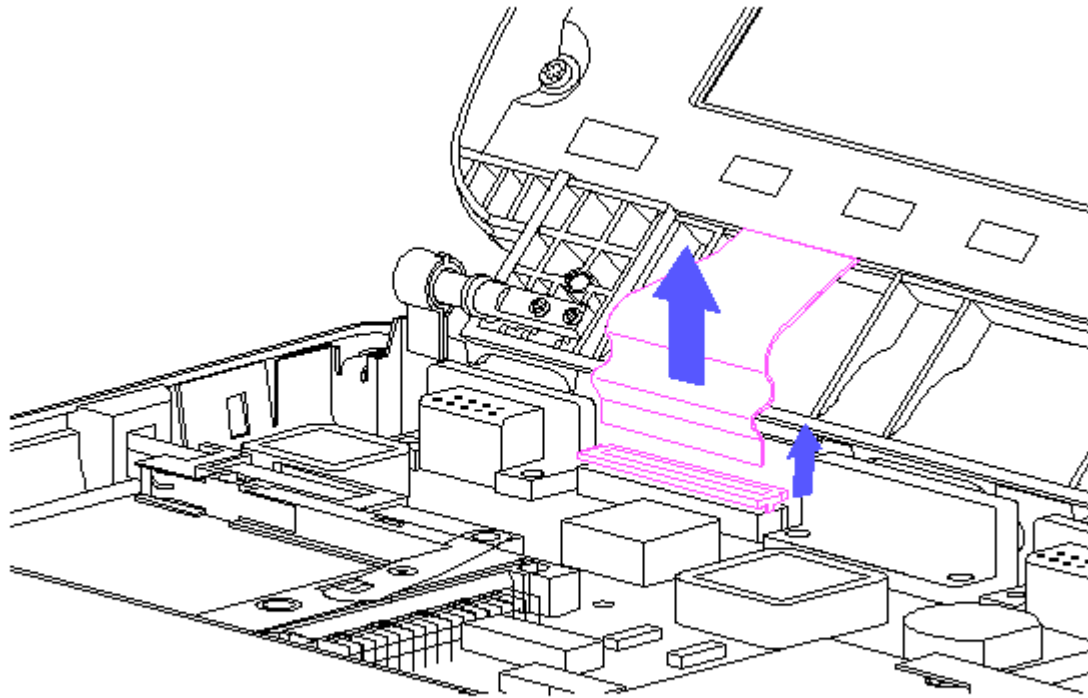

Figure 3-23. Releasing the Display Cable from the System Board
5. Release the ZIF connector attaching the display cable to the system board (Figure 3-23).